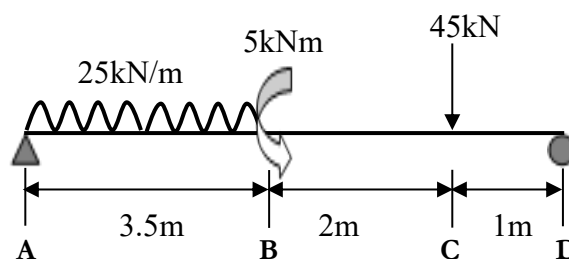

Figure A1(b) / Rajah A1(b)
- (b) A simply supported beam is loaded as shown in Figure A1(b). With the aid of free body diagram (FBD), calculate the reaction force at support A and D.